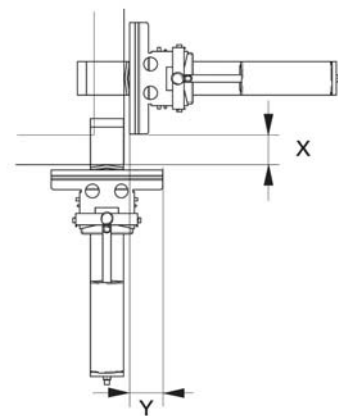

Figure 4: Positioning of corner clamps on frames with sides longer than 150 cm
3. Increase the tension in the mesh sides simultaneously, preferably in 2-3 stages until the final tension value is reached. (see Figure 4)